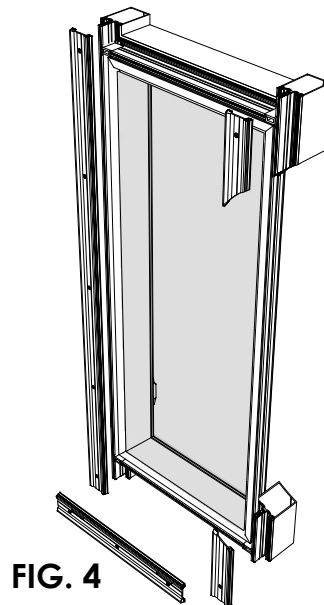

FIG. 4
- Install exterior pressure plates ensuring drainage slots are facing up. See **FIG. 4** , ensure window remains square. See **FIG. 5**